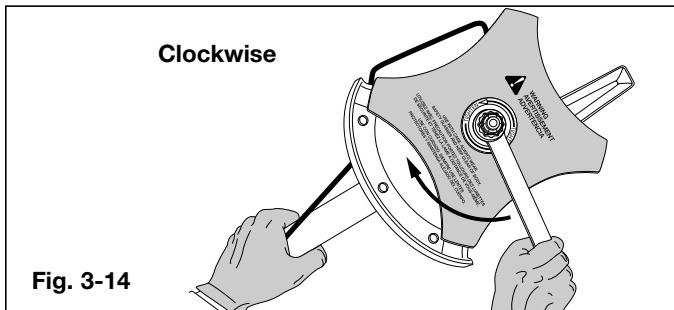

Fig. 3-14
2. Hold the locking rod in place by grasping it next to the boom of the unit (Fig. 3-14).
3. While holding the locking rod, loosen the nut on the blade by turning it clockwise with a 5/8 inch closed-end or socket wrench (Fig. 3-14).